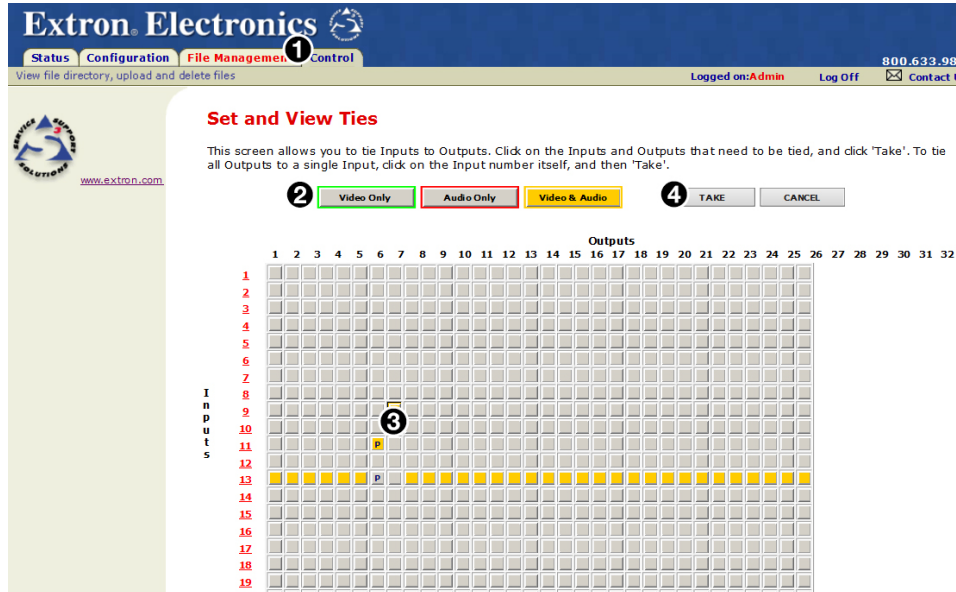

Figure 38. User Control Ties page
You can create ties on the **Set** and **View Ties** page. Access the **Set** and **View Ties** page by clicking the **Control** tab (see figure 38, ❶).